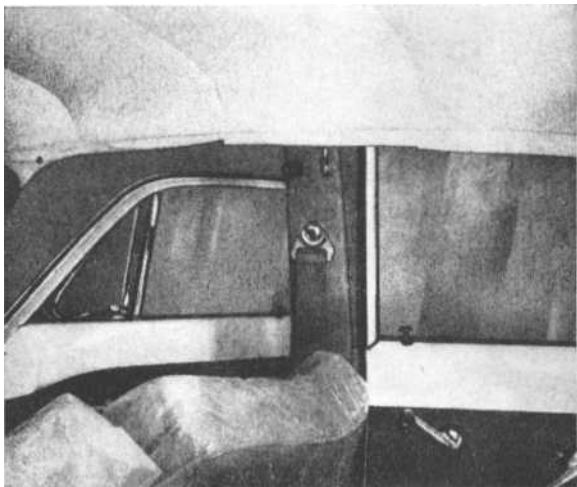

Fig. 75. Headlining ready for stretching
8. Fit the headlining above the rear window as described in point 7. The seam running across at the back should come at an equal distance from both the corners of the rear window, see Fig. 75.